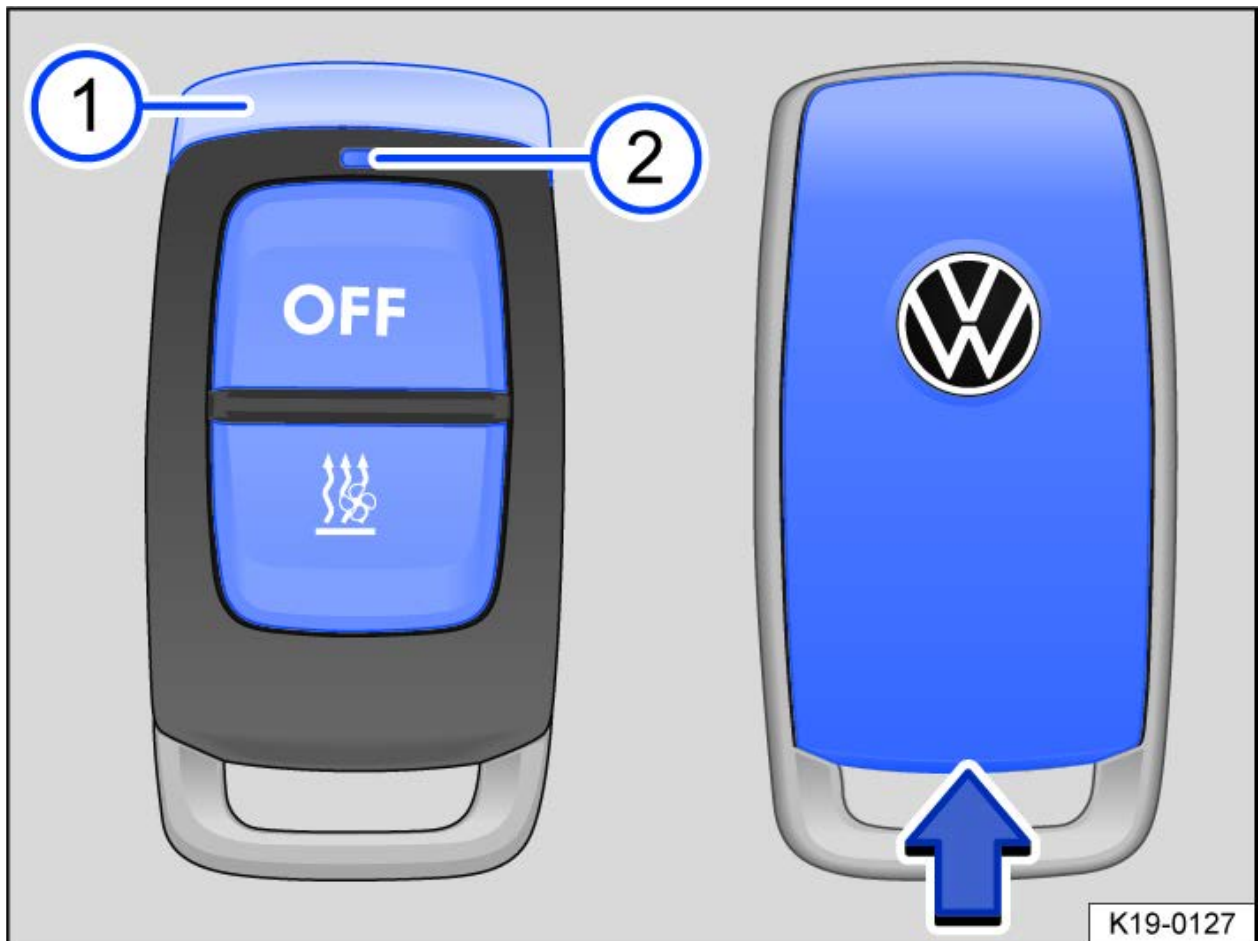

Fig. 1 Auxiliary heating: remote control (left) with battery compartment (right)
— *Switching on:* Press and hold the  button for approximately one second → *fig. 1*.
— *Switching off:* Press and hold the **OFF** button for approximately one second → *fig. 1*.
After a button is pressed, the LED indicates various statuses → *fig. 1* (2).